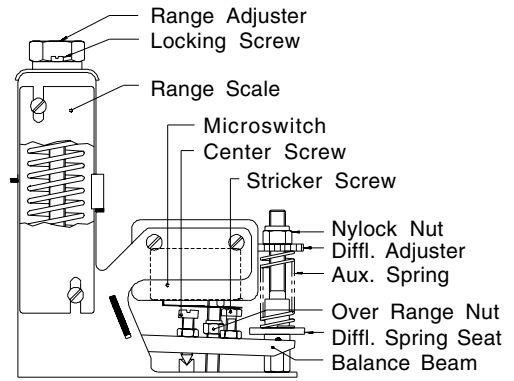

**Fig.3**
**For Models 781 / 734 / 774 (Fig.3)**